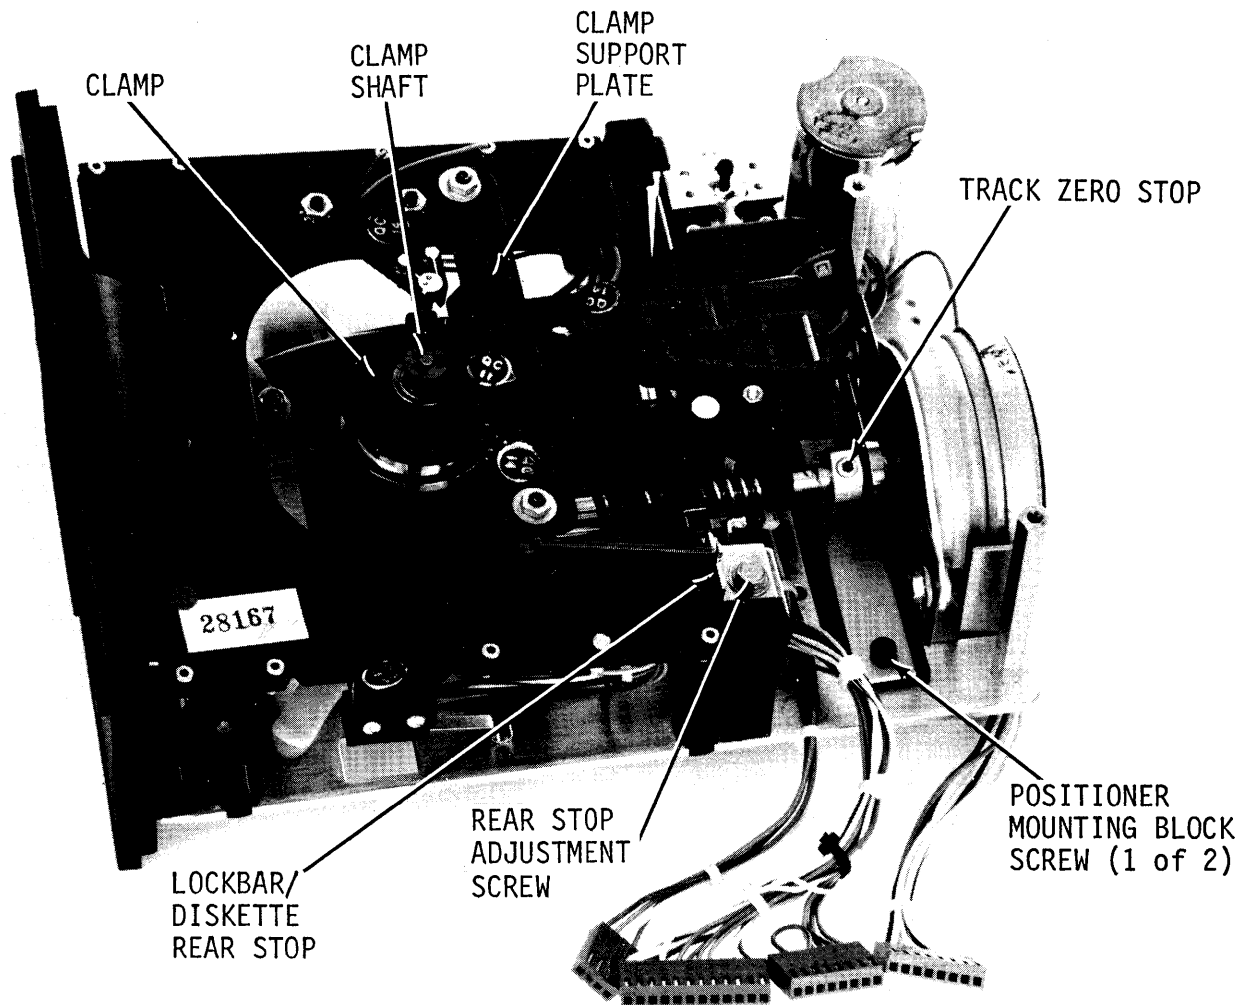

Figure 4-11. Drive Mechanism, Top Rear View
- h. The track zero stop (see figure 4-11) should be set so that when the head is positioned at track zero, the positioner cannot move the head more than one-third of a step behind track zero. If necessary, loosen the track zero stop set screw and reset the stop so that the drive screw can rotate 5° to 10° past track zero before the carriage hits the stop. The 5° to 10° free movement must be provided to prevent the
- c. Manually move the lock bar/diskette rear stop (see figure 4-11) toward the rear of the drive until it locks, simulating the existence of a diskette.
- f. Loosen the positioner mounting block screws (see figure 4-11) so the block can be moved.
The clamp support plate (see figure 4-11) provides the mounting surface for the clamp. The clamp shaft must be centered in the support plate hole such that the shaft does not touch the support plate, either on the side or via the C-clip which secures the clamp shaft, when the receiver assembly is in the loaded position.
The diskette rear stop (see figure 4-11) positions the diskette with respect to the spindle. The rear stop also serves to eject the diskette when it is being removed.